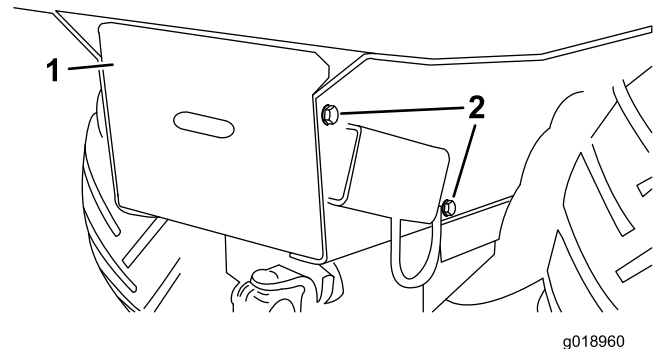

Figure 33
2. Remove the bolts securing the battery tray, located on both sides of the machine (Figure 33).